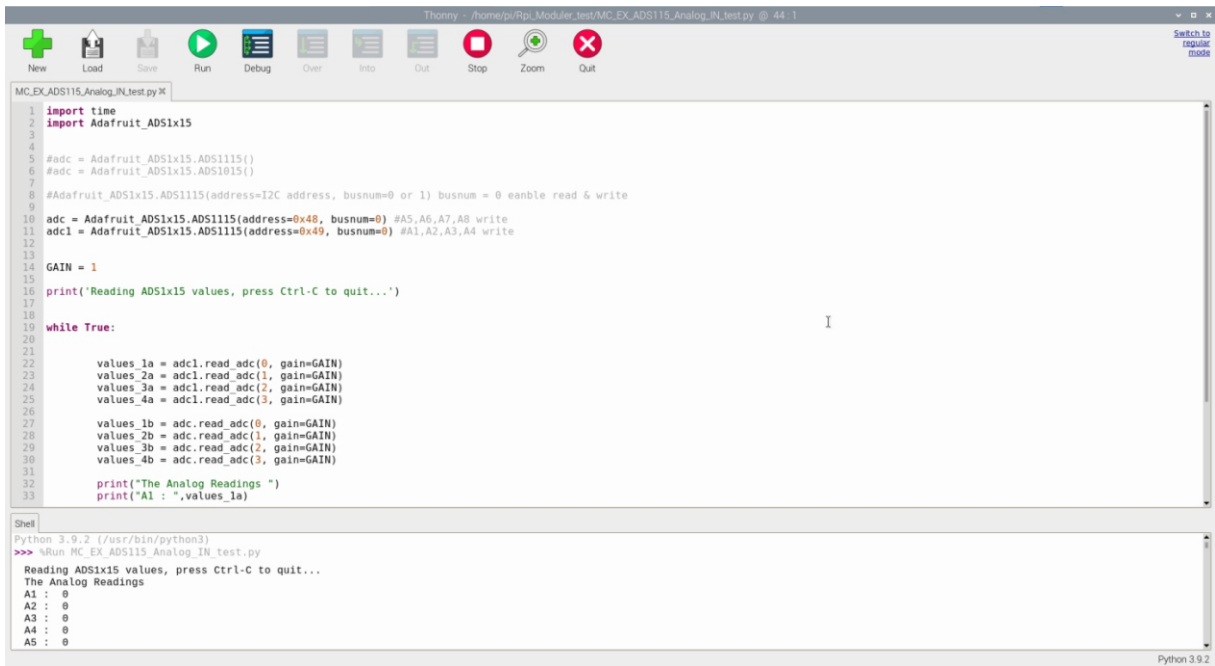

Figure 4: Analog Input example code run on Thonny Python IDE.
9. The python program will open on default Thonny Python IDE. Click RUN for start the program shown in Figure 4.